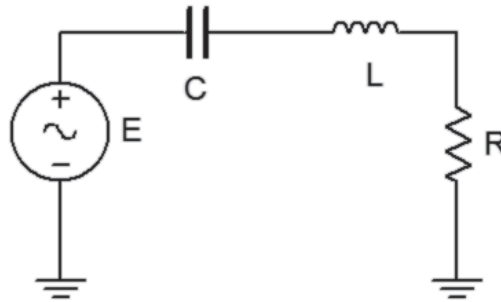

Figure 13.1
1. Using Figure 13.1 with $R=470 \Omega$, $L= 10 \text{ mH}$, and $C=10 \text{ nF}$, determine the theoretical resonance frequency and Q , and record the results in Table 13.1. Based on these values determine the upper and lower frequencies defining the bandwidth, f_1 and f_2 , and record them in Table 13.1.
2. Build the circuit of Figure 13.1 using $R=470 \Omega$, $L=10 \text{ mH}$ and $C=10 \text{ nF}$. Place a probe across the resistor. Set the output of the generator to a 1 V p-p sine wave. Set the frequency to the theoretical resonance frequency of Table 13.1. Make sure that the *Bandwidth Limit* of the oscilloscope is engaged for both channels. This will reduce the signal noise and make for more accurate readings.
7. Build the circuit of Figure 13.1 in a simulator. Using AC Analysis, plot the voltage across the resistor from 1 kHz to 100 kHz for both the high and low Q cases and compare them to the plots derived from Tables 13.2 and 13.4. Be sure to include the 50Ω source resistance and coil resistance in the simulation.